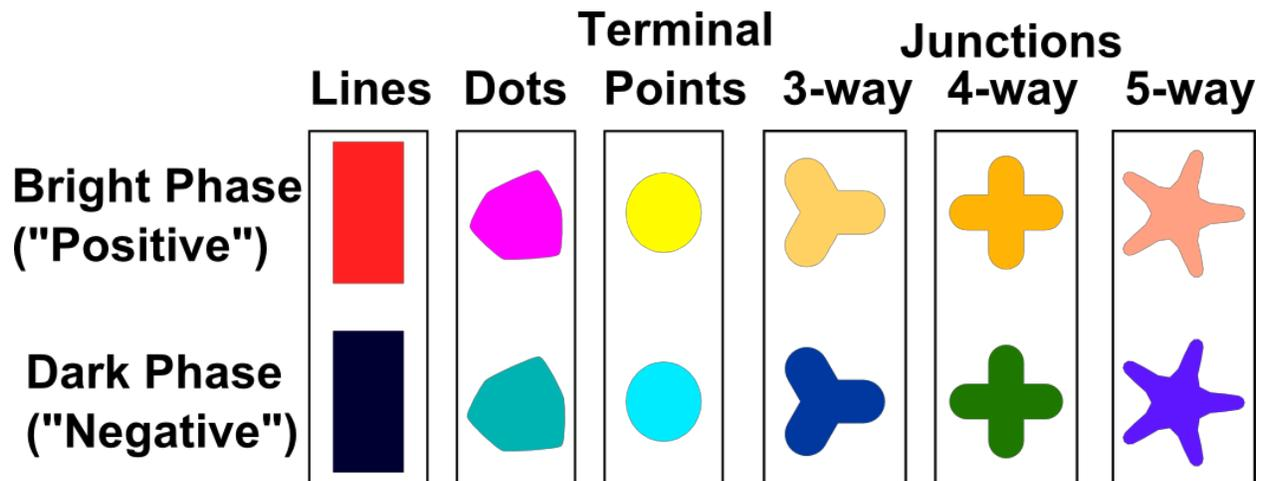

Figure S12. Legend used for depicting defects and line features in confirmation images.
- [\[image_regions_defects_NEW.png\]](#) All defects marked and identified, according to legend shown in Figure S12 below